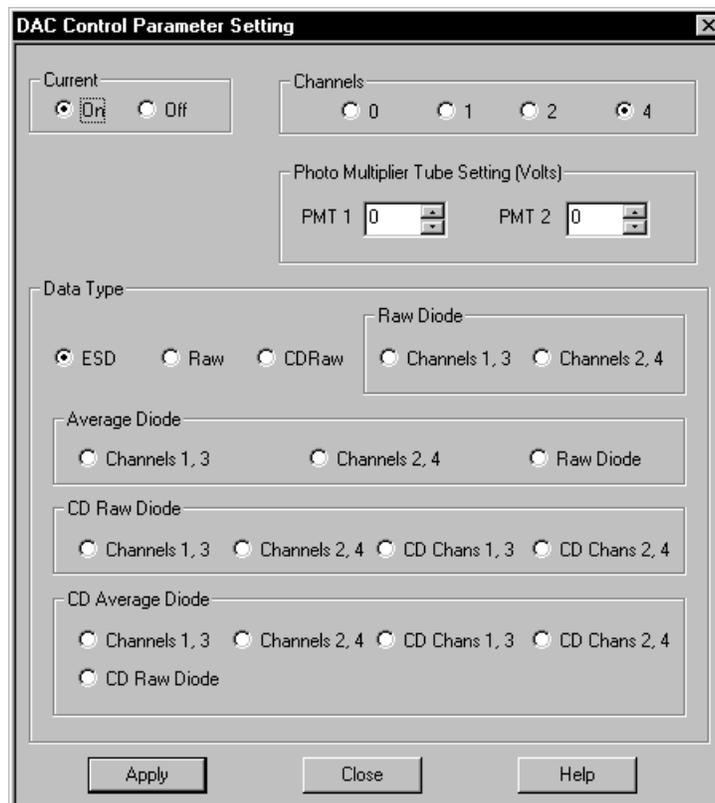

Figure 7-7. DAC Control Parameter Setting.
**DAC Control Parameter Setting**—This icon brings up the DAC Control Parameter Setting window (figure 7-7), which allows you to turn the current on or off, select channels, set the high voltage for both PMTs, and to select the data types for all four channels.